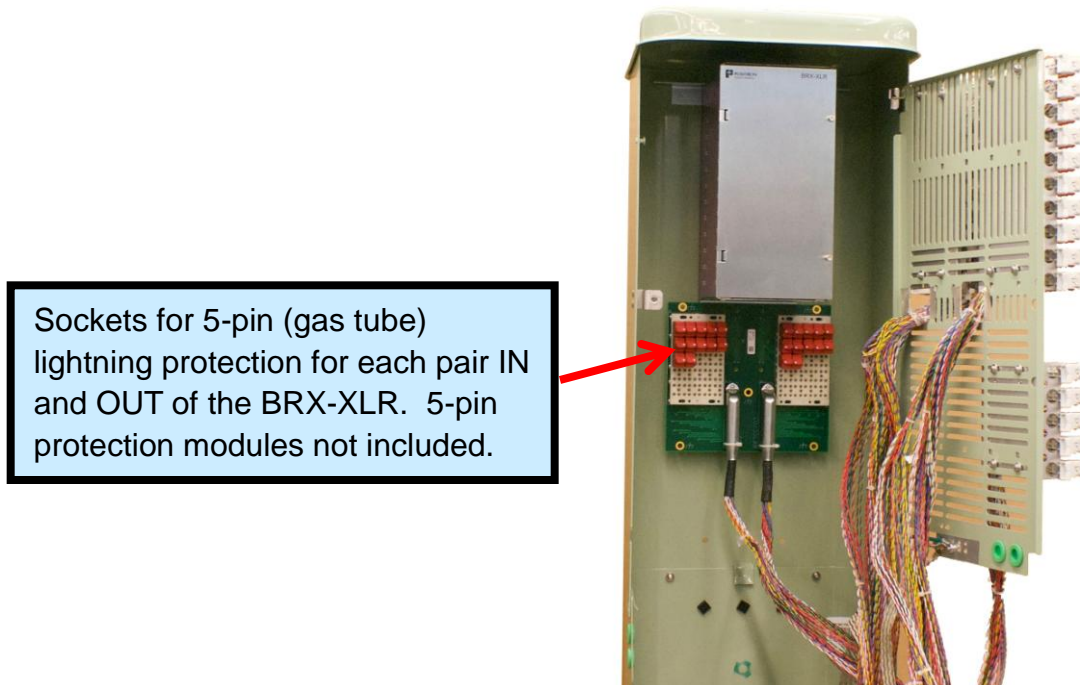

Figure 11: Cabinet Interior pre-wired with 5-pin Protector Modules installed for 12 BRX pairs
The BRX-24S can be housed in many standard pedestals. The 24-pair BRX-XLR-24-1Sxx pedestal supplied by Positron has a number of available options described in the BRX-XLR Product Selection Guide. To simplify this document, the installation instructions will be provided for full configurations. The base component (not optional) is called the BRX-XLR-24-1S. This is based on an Emerson CAD-12 Pedestal equipped with one (1) factory installed 24-pair shelf (BRX-24S) factory-installed with 12 BRX-XLR-M 2-pair ADSL2+ amplification modules (24 pairs) as shown in Figure 11 below. At the bottom of the BRX-24S are two standard RJ-21 (champ 50) connectors (aka Amphenol connectors). The leftmost connector is used to connect the pairs toward the CPE devices. The rightmost connector is used to connect the pairs from the DSLAM.
The 5-pin protector modules for both the DSLAM and CPE sides shall be installed at this time. Note that for the 48-pair version, the location of protector block is behind the inner front panel (see Figure 12) whereas for the 24-pair version it is located under the BRX-24S shelf (see Figure 11).